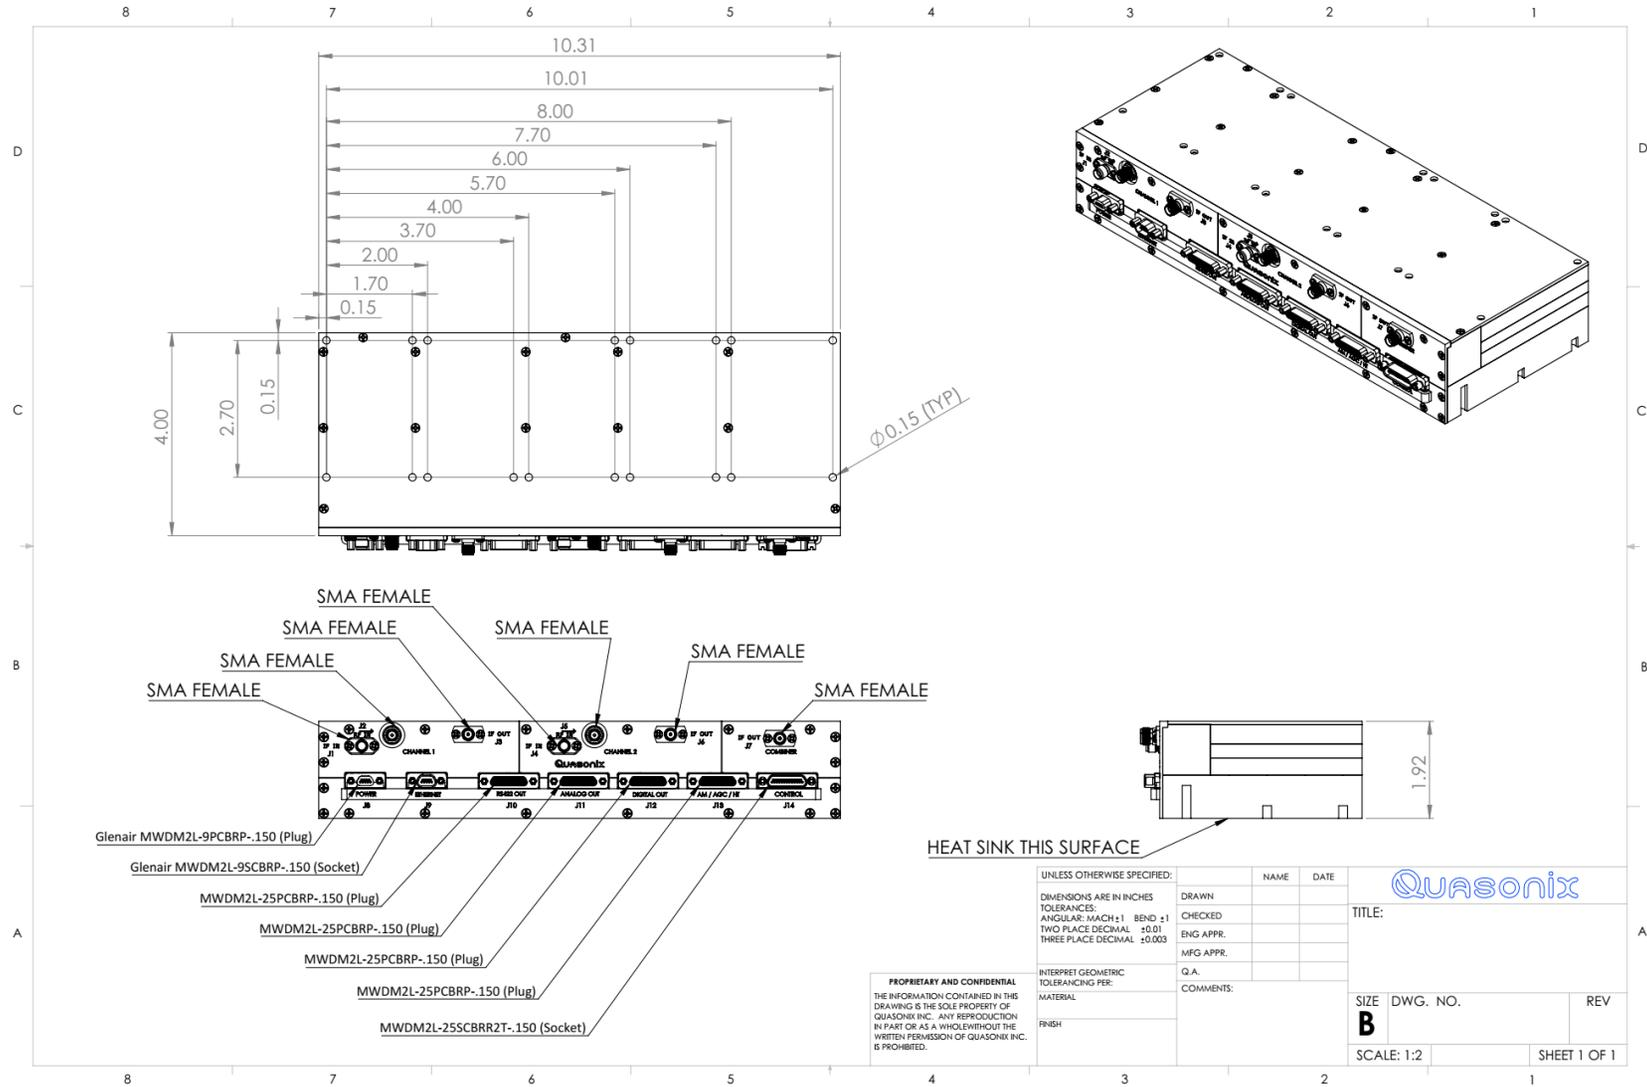

Figure 4: 3rd Generation Compact RDMS™ Receiver-Combiner
The CRC™ is designed to be mounted by eighteen (18) 6-32 screws through the holes along the front and back edges, as depicted in Figure 4 on the following page.